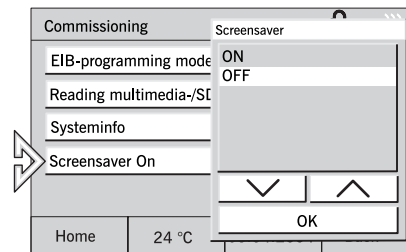

Fig. 70
1. Insert the SD card into the control panel and press the "Screensaver" button (Fig. 70).